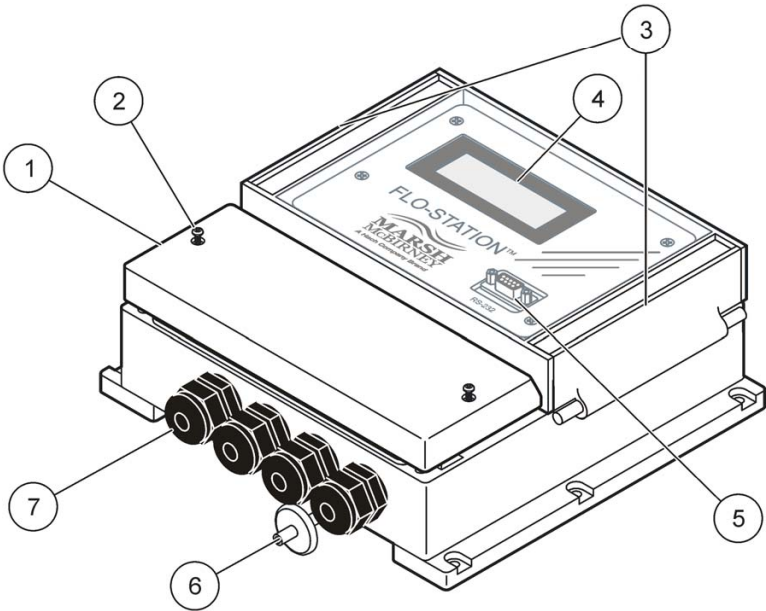

Figure 2 Flo-Station Monitor features
Refer to Figure 2 for the Flo-Station Monitor front panel features.
1. Remove the bottom cover (Figure 2 on page 8).